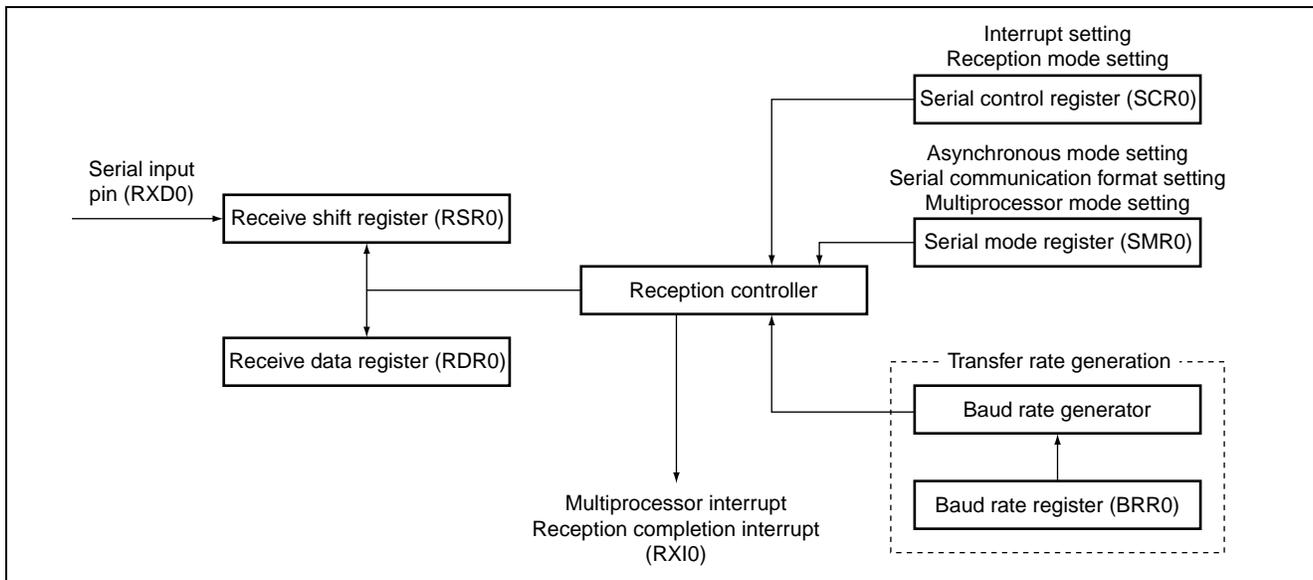

Figure 3 Block Diagram of Receiving Station SCI
- B. The block diagram of the receiving station SCI used by the sample task is shown in figure 3. This sample task uses the following SCI functions for reception: